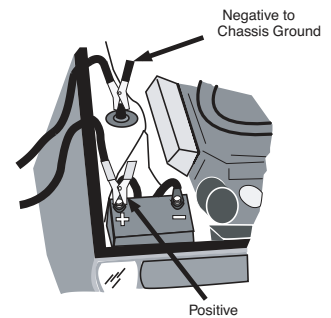

Figure 5. Negative Ground Vehicle
- a. Negative Ground Vehicles (most common, see Figure 5)